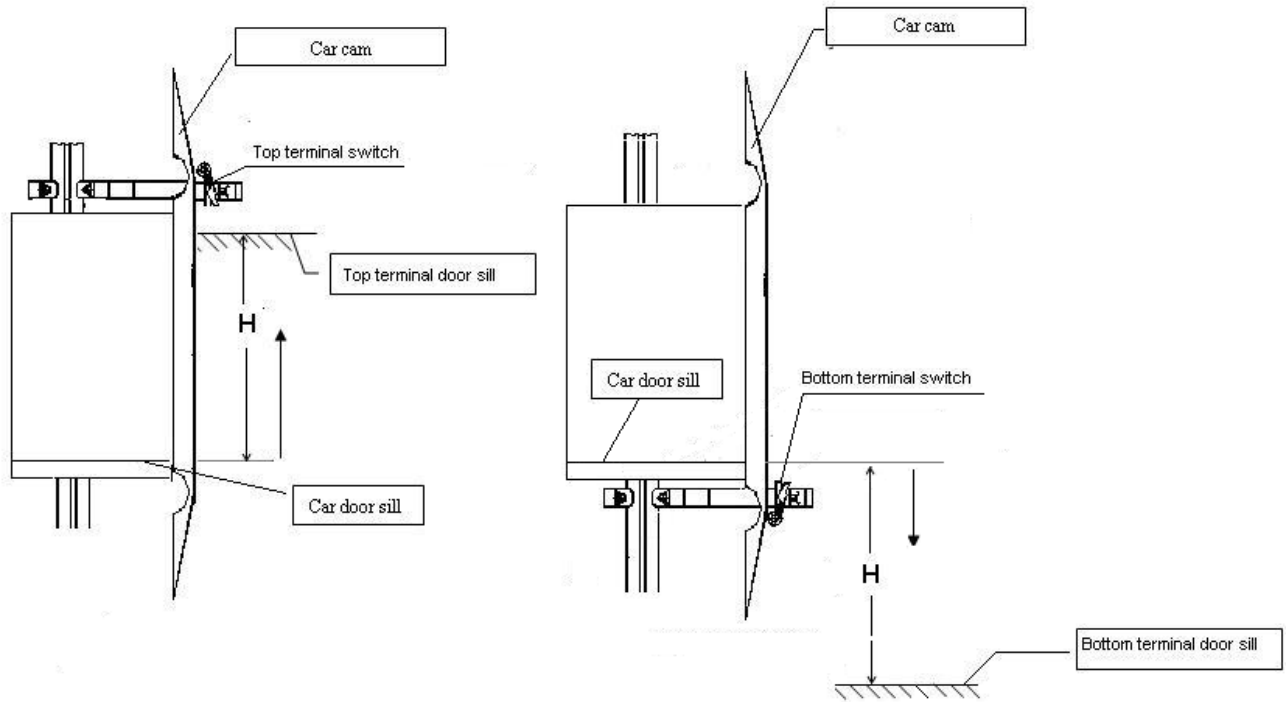

Figure 2-6 Top/bottom terminal installation figure
2). Terminal switch: Elevator needs one top terminal switch, bottom terminal switch and car cam; top/bottom terminal switch are fixed in hoistway, and car cam is fixed on car frame, which position refers to the following figure2-6: